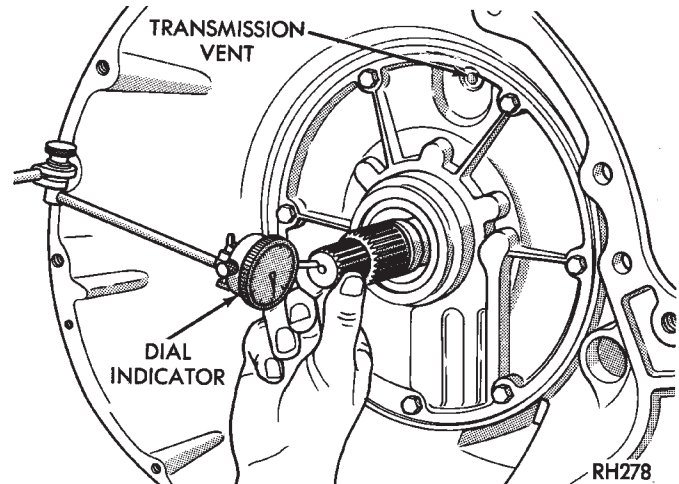

Fig. 142 Checking Input Shaft End Play
- (1) Check input shaft end play as follows.
- (2) Attach dial indicator to converter housing (Fig. 142). Position indicator plunger against input shaft and zero indicator.
- (3) Move input shaft in and out and record reading.
- (4) End play should be 0.86 - 2.13 mm (0.034 - 0.084 in.).
- (5) If end play is incorrect, change intermediate shaft thrust washer. The thrust washer controls end play and is available in three thicknesses for adjustment purposes.